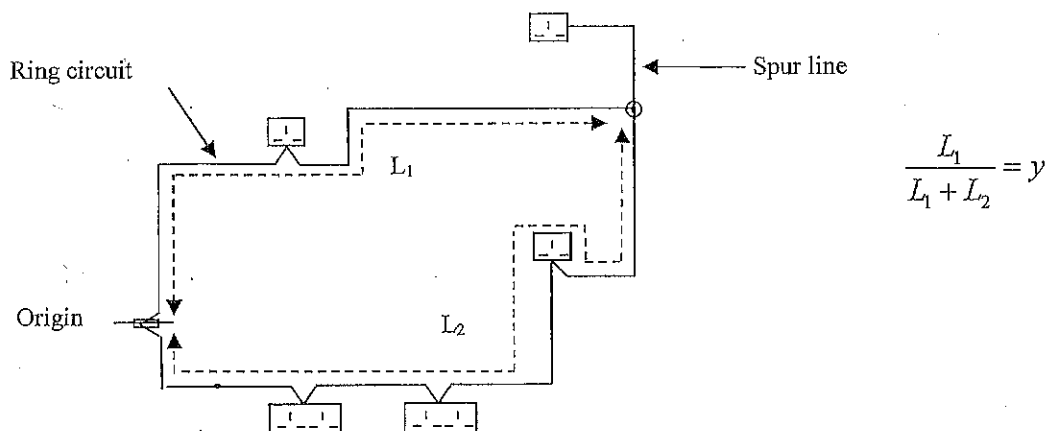

Figure Q6
6. a. To determine the earth fault loop impedance of a "spur" on a ring circuit, strictly it is necessary to estimate the fractional distance of that spur from the origin of the circuit. If the fraction is denoted by 'y' as shown in figure Q6, prove that the earth fault loop impedance at the remote end of spur is given by: